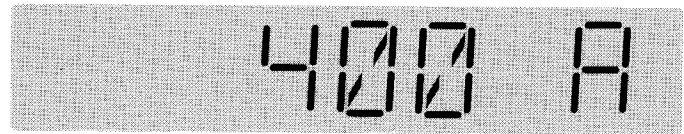

Figure 4-21 Typical Test Current Display
- Step 7:** Once **Trip** or a **Non-Trip** has been selected and is correctly displayed, use the **Next** pushbutton and the magnitude of the test current in amperes is displayed (Figure 4-21).